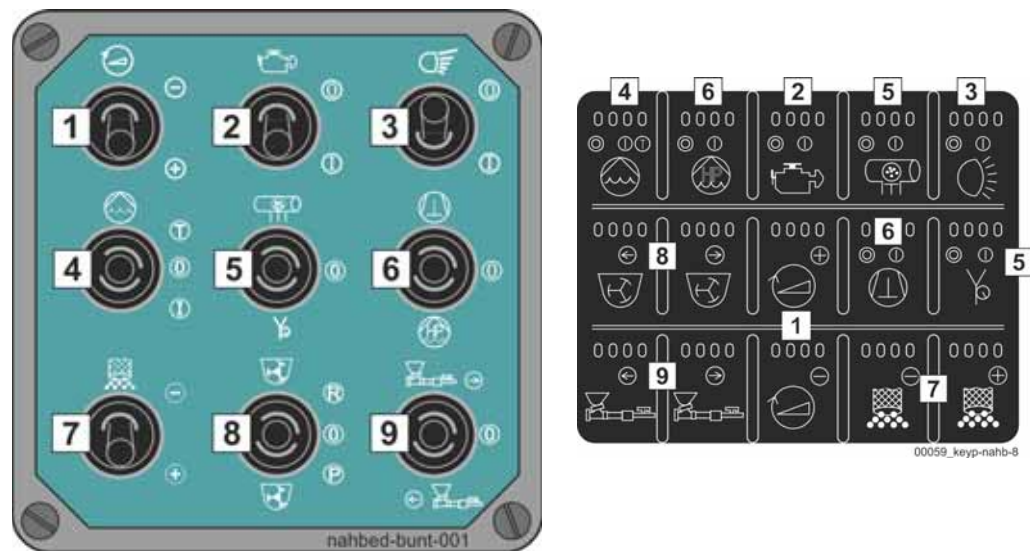

Fig. 117 Local control
- Switch all engaged selector switches on the local control unit (Fig. 117) to the neutral (0) position and unlock all EMERGENCY STOP buttons on the machine; otherwise, it will not be possible to start the machine up.
▶ Go to the local control unit (**Fig. 117**).